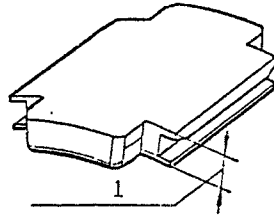

Fig. 3-5 Thickness of Brake Block
(1) Thickness check of the brake block. Select two thinner brake blocks to check their thickness which should not be less than 8mm (Fig. 3-5).